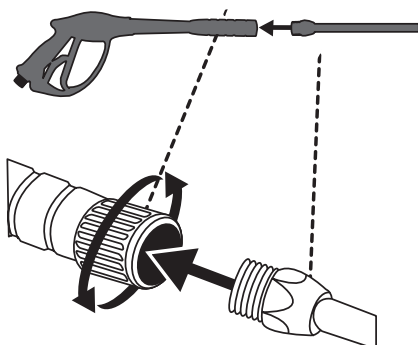

Figure 3-2
- Connect spray wand to spray gun. Tighten securely. See Figure 3-2.